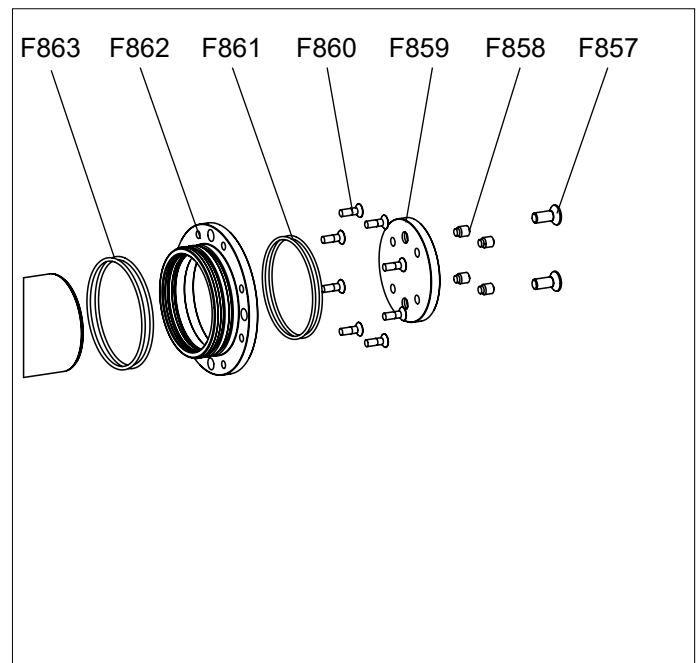

Fig. 2D
6. Remove the eight Lower O-ring Retainer Mounting Screws (F860) (See Fig. 2D)